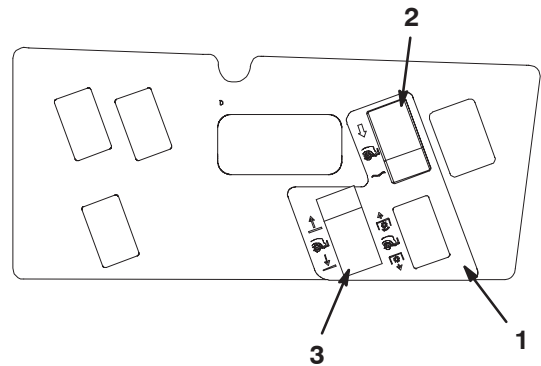

Figure 25
39. Clean the control panel surface and affix the decal around the exposed holes (Fig. 25).
40. Insert the switches into the appropriate mounting holes (Fig. 25). The flat on the switch is to be positioned toward the operator.